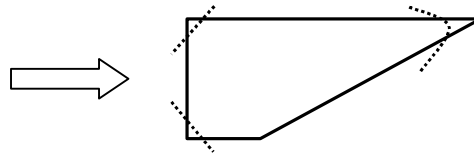

Fig.2
- 2) Cut the corner as below. (Fig.2)